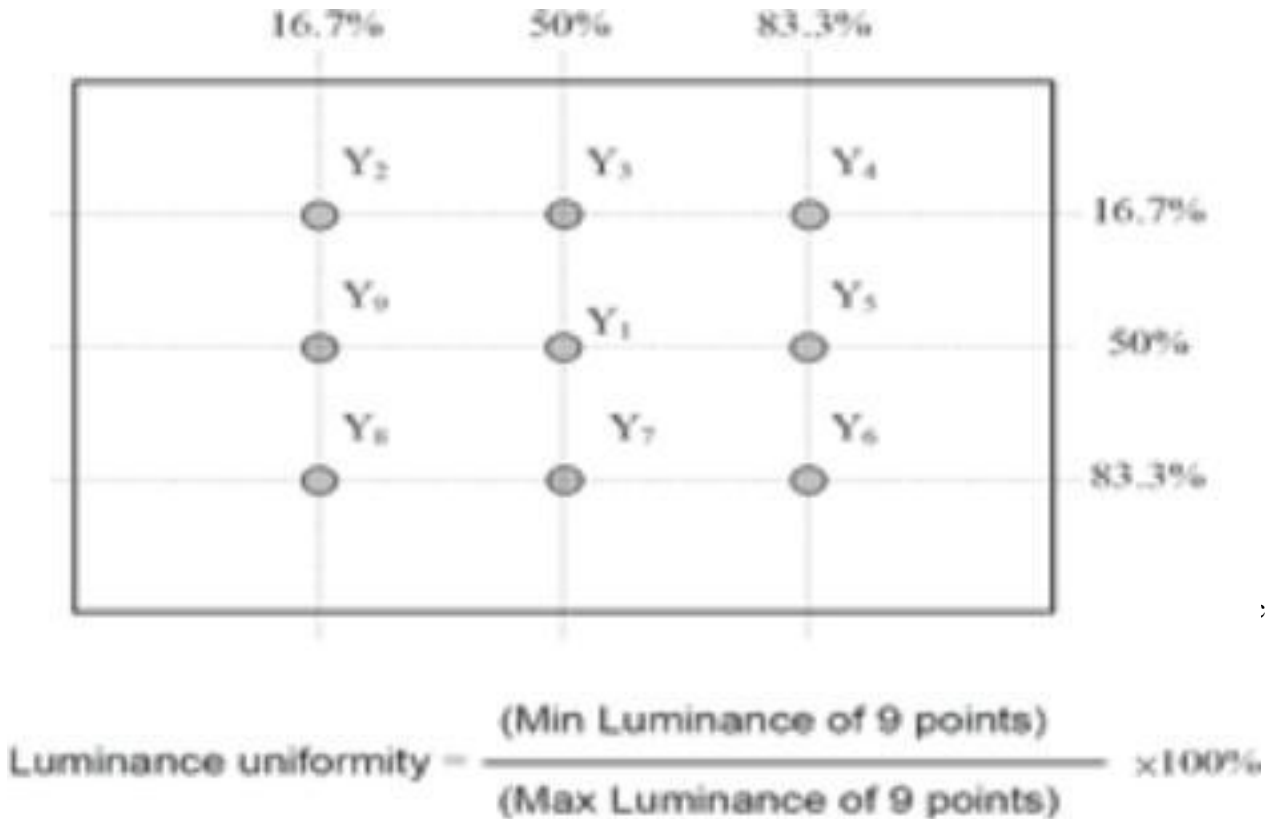

Figure 1. Measurement Set Up
1. Viewing angle is the angle at which the contrast ratio is greater than 10. The viewing angles are determined for the horizontal or 3, 9 o'clock direction and the vertical or 6, 12 o'clock direction with respect to the optical axis which is normal to the LCD surface (see FIGURE 1).
2. Contrast measurements shall be made at viewing angle of $\Theta = 0$ and at the center of the LCD surface. Luminance shall be measured with all pixels in the view field set first to white, then to the dark (black) state. (see FIGURE 1) Luminance Contrast Ratio (CR) is defined mathematically.
3. Center Luminance of white is defined as luminance values of 1point average across the LCD surface. Luminance shall be measured with all pixels in the view field set first to white. This measurement shall be taken at the locations shown in FIGURE 1 for a total of the measurements per display. The luminance is measured by CA310 when the LED current is set at 20mA.